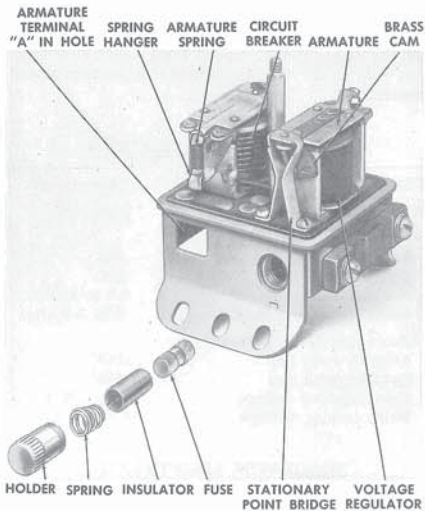

Fig. 41. Generator Regulator (Fuse side)
**Adjust Circuit Breaker Point Closing Voltage.** Connect a voltmeter across armature wire (grey) terminal marked "A" and ground on regulator base. Adjust closing voltage by bending lower spring hanger to vary tension on circuit breaker armature (Figure 41). Increasing spring tension raises closing voltage; decreasing spring tension lowers closing voltage. The circuit breaker should close at 6.50 to 7.25 volts.
**Adjust Voltage Regulator Armature Air Gap.** (Figure 41). Check air gap using a 0.045-inch flat gage. With regulator points closed, insert gage between armature and electromagnet core and adjust gap to 0.045-inch clearance by contracting or expanding stationary point bracket, using needle-nose pliers.
**Adjust Voltage Regulator Point Gap.** (Figure 41). Check point gap, using a .005-inch flat gage. Insert gage between points and adjust gap to .005-inch clearance by turning brass cam located under armature at contact point end.